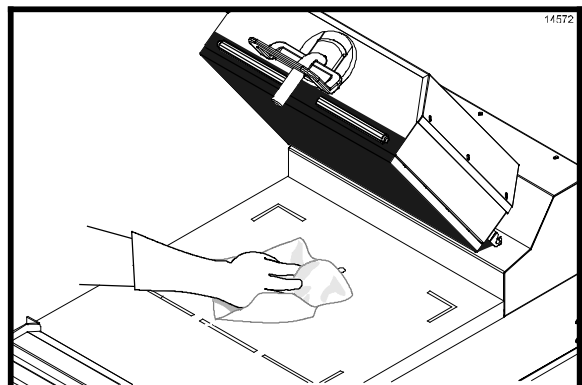

Figure 39
30. Wipe the lower grill surface with a clean, sanitizer-soaked grill cloth. Repeat until no visible soil remains. (See Figure 39.)